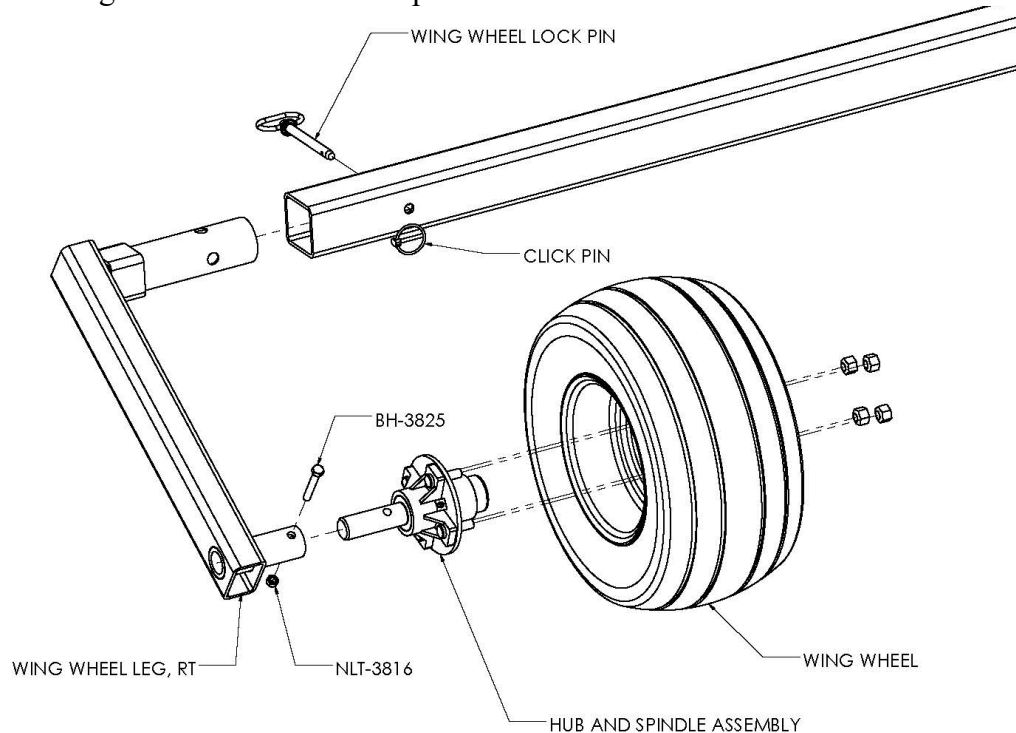

Figure 11
2. Mount the wing wheels on the wing wheel brackets. Refer to Figure 11.
2. Bolt the wing cable brackets to the free end of the wing cables. Refer to Figure 11. Place one of the 17/32" ID x 15/16" OD x 9/16" spacer bushings into the free ends of the wing cables, then bolt the wing cables to the wing cable brackets using 1/2" x 2" bolts, lock washers, and hex nuts.